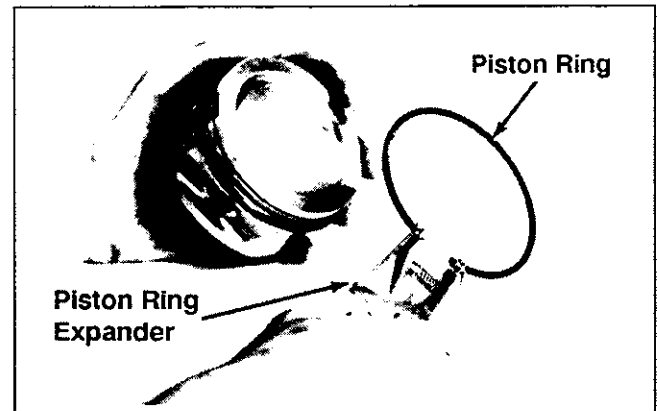

Figure 9-43. Removing Piston Rings.
- Remove the top and center compression rings using a ring expander tool. See Figure 9-43.